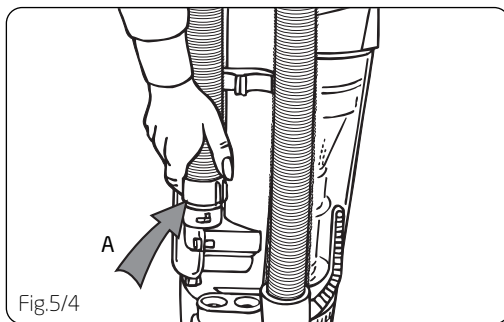

Fig.5/4
Turn cleaner OFF before disconnecting and connecting hose. Remove hose end from dirt duct (A) (Fig.5/4).